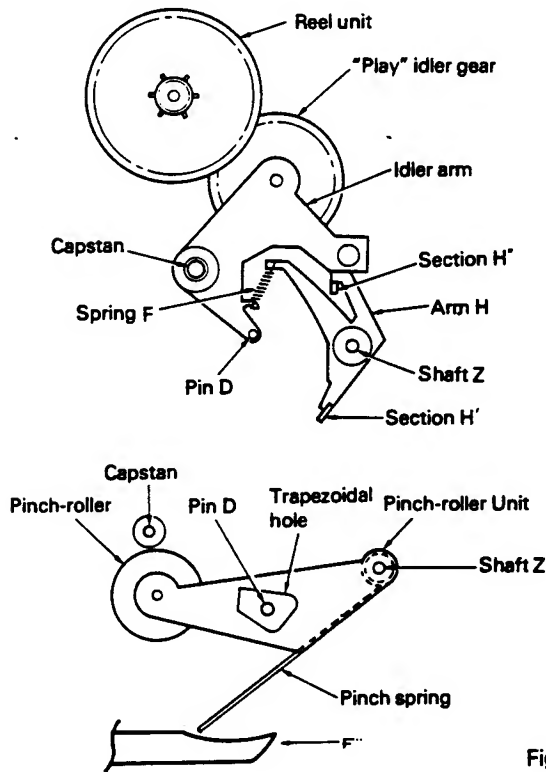

Fig. 17
5. After the head base goes beyond the MS pattern (Fig. 16-6) position, the arm "F", "F" part pushes the pinch roller unit pinch spring and presses the pinch roller down onto the capstan. (Fig. 17)
6. Simultaneously, the arm "F", "F" unit pushes the arm "H", "H" part. The "H" part lock releases when pushed, and the play idler gear comes into contact with the reel unit. Play operation begins because of this. (Fig. 16-5, Fig. 17)